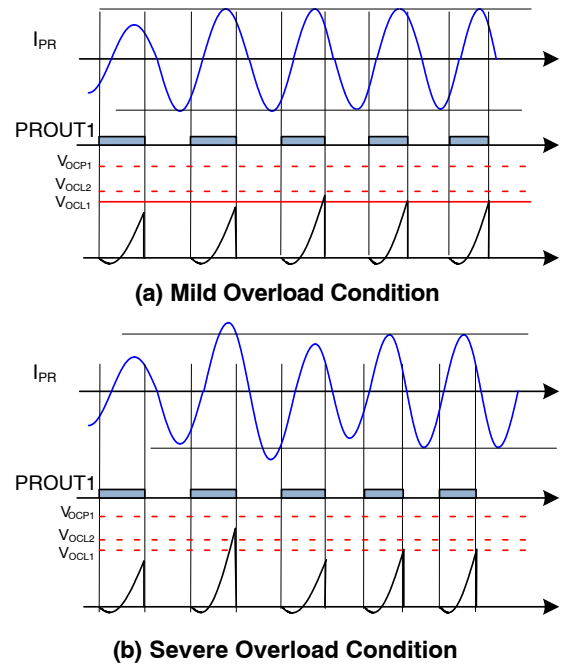
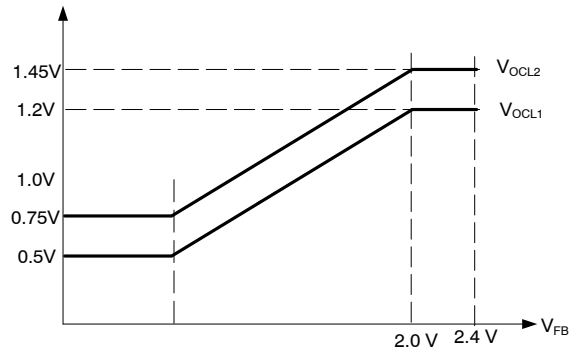

Figure 64. Current Limit of the ICS Pin by Frequency Shift (Compensation Cutback)
Figure 65. Current Limit Threshold Modulation as a Function of Feedback Voltage
- Over-Current Limit: The  $V_{ICS}$  peak value is also used for input current limit. As can be seen in Figure 64, there exist two different current limits (fast and slow). When the  $V_{ICS}$  peak value increases above the slow current limit level ( $V_{OCL1}$ ) due to a mild overload condition, the internal feedback compensation voltage is slowly reduced to limit the input power. This continues until the  $V_{ICS}$  peak value drops below  $V_{OCL1}$ . During a more severe over load condition, the  $V_{ICS}$  peak value crosses the fast current limit threshold ( $V_{OCL2}$ ) and the internal feedback compensation voltage is quickly reduced to limit the input power as shown in Figure 64 (b). This continues until the  $V_{ICS}$  peak value drops below  $V_{OCL2}$ . The current limit threshold on the  $V_{ICS}$  peak value also changes as the output voltage sensing signal ( $V_{FB}$ ) decreases such that output current is limited during overload condition as shown in Figure 65. In addition, these limit thresholds change to higher values ( $V_{OCL1.BR}$  and  $V_{OCL2.BR}$ ) when the converter operates in deep below resonance operation for a longer holdup time (refer to holdup time boost function)